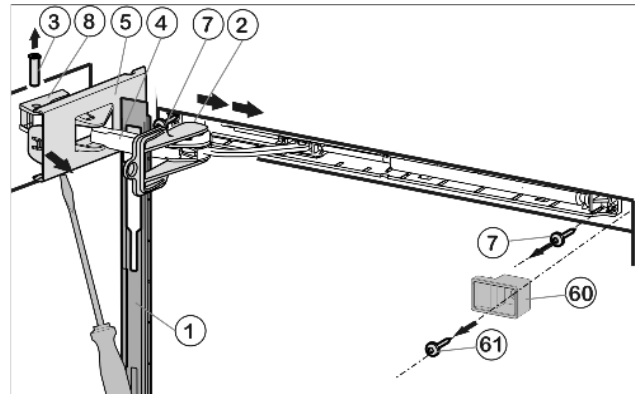

Fig. 22
- Push panel forwards over the damper bracket Fig. 22 (4) in the direction of the appliance.
- Engage locking device Fig. 22 (2) into place inside oblong hole.
- Unscrew cover that is on the hinge side Fig. 22 (5) until the first notch using a screwdriver.
- Push bolt Fig. 22 (3) out from below.
- Press damper bracket Fig. 22 (4) in the direction of the door.
- ▶ Completely loosen cover that is on the hinge side *Fig. 22 (5)* and remove.
- ▶ Remove panel *Fig. 22 (1)*.
- ▶ Unscrew spacer *Fig. 22 (60)*.
- ▶ Unscrew soft stop unit (2 x Torx 15) *Fig. 22 (7)*.